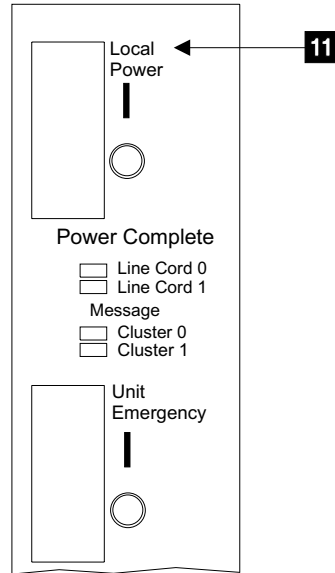

Figure 63. 2105 Model Exx/Fxx Operator Panel Switches (t007595m)
- d. Press the 2105 Model Exx/Fxx operator panel Local Power switch to On (|, up) **11**, in Figure 63 on page 81, then release it.